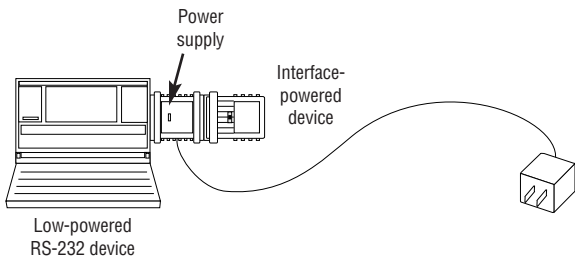

Figure 1. Connecting the power supply.
3. Connect the other end of the power supply into the low-power RS-232 device. The application should look similar to the diagram in Figure 1.